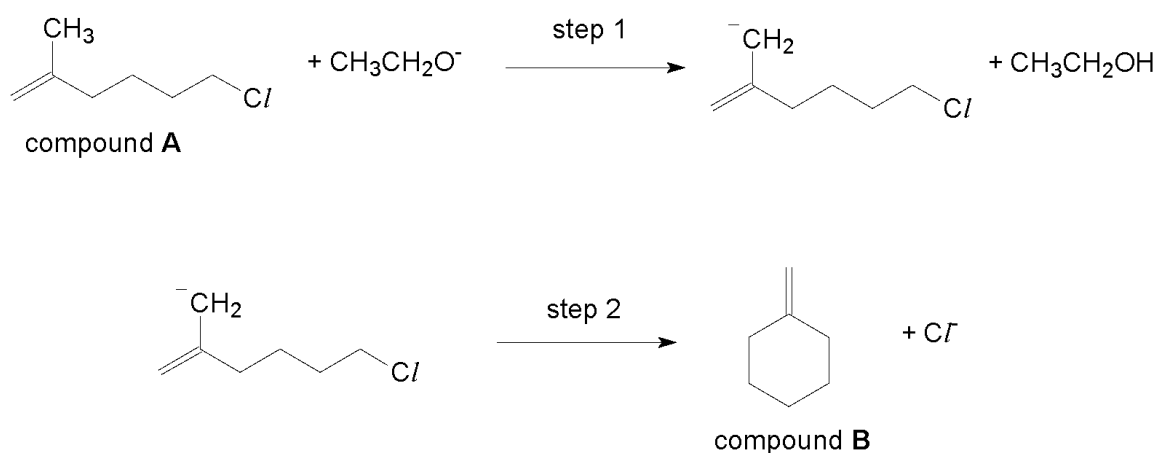

Fig. 3.1
- (b) The strongly basic ethoxide ion, $\text{CH}_3\text{CH}_2\text{O}^-$, removes a proton from compound **A**, giving the anion shown in Fig. 3.1.
Show the mechanism for step 2 on Fig. 3.1 by adding a lone pair, curly arrows and dipoles.